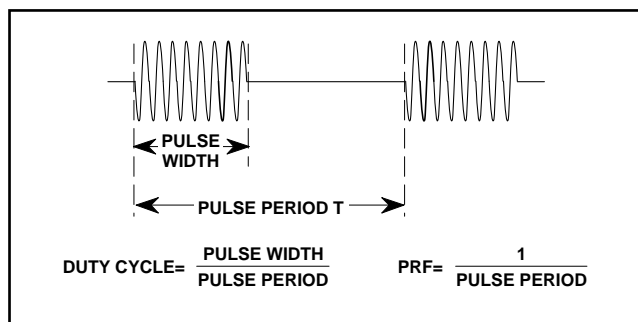

Figure 3-3. Pulsed RF Environment
The 360PS20A system is able to measure the pulse performance of coherent systems. That means that the pulse is generated by amplitude modulating a cosine or sine wave function (Figure 3-3). The pulse period is the time period measured between the start of one pulse and the start of the next pulse. This must be constant. Pulse period is sometimes called cycle time. The pulse repetition frequency (PRF) is the reciprocal of the pulse period. PRF is frequently referred to as pulse repetition rate (PRR). The duty cycle is defined as the pulse width (PW) divided by the pulse period. Duty cycle is often called duty factor.